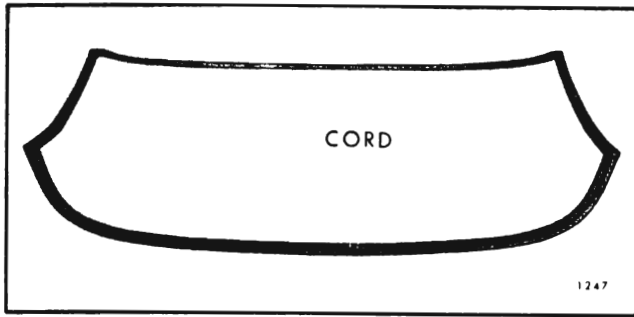

Fig. 4-13—Windshield Installation
- c. Insert a strong cord in pinchweld cavity of rubber channel completely around windshield. Tie ends of cord and tape to inside surface of glass at bottom center of glass (Fig. 4-13).